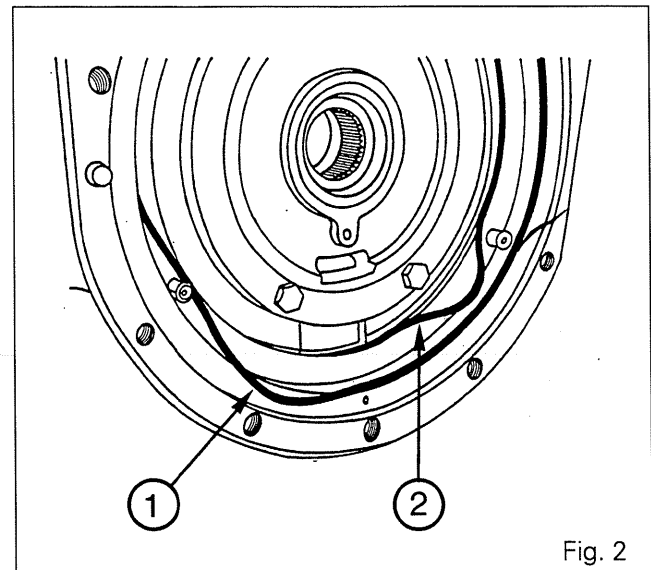

Fig. 2
3. Remove the O-rings (1) and (2) on the housing (Fig. 2) and discard them.
6. Remove the piston, fit new O-rings (1) and (2) (Fig. 2) after applying a light coat of miscible grease (technical Amber or equivalent) in order to keep them correctly positioned at the bottom of the groove.